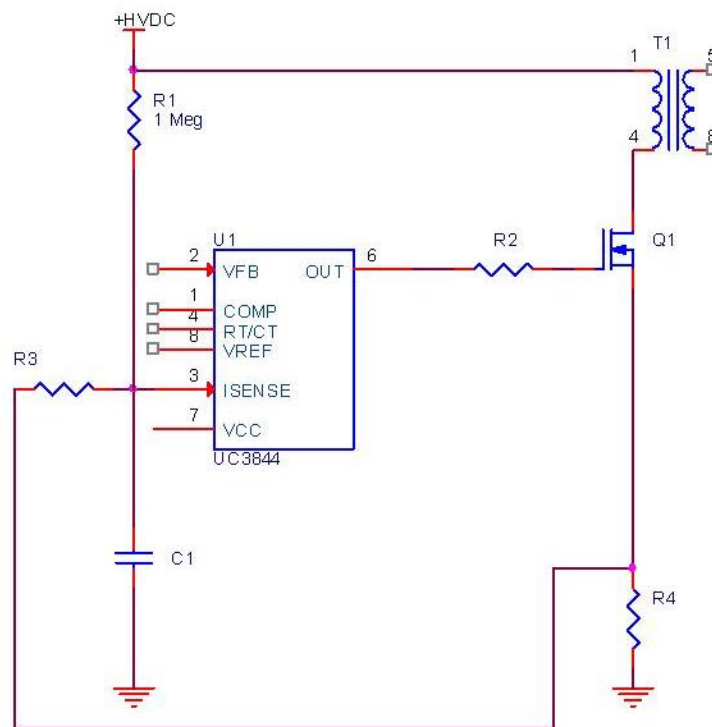

FIGURE 10
11) Sometimes connecting current sense pin ISENSE to rectified high voltage DC +HVDC via 1 Meg resistor helps (Figure 10).